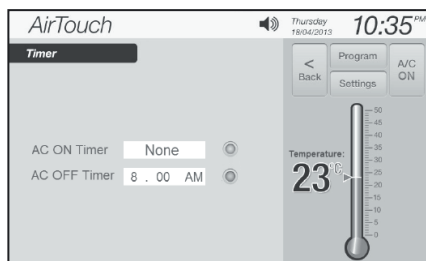

Figure 11.
- Touch **AC Timer** on 'Program' screen (Figure 4) to enter 'AC Timer' setup screen(Figure 11).